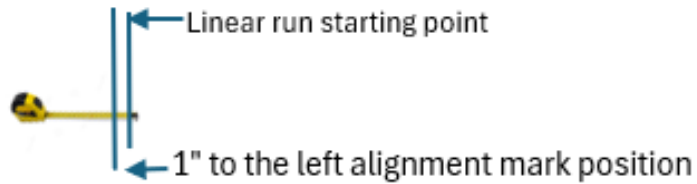
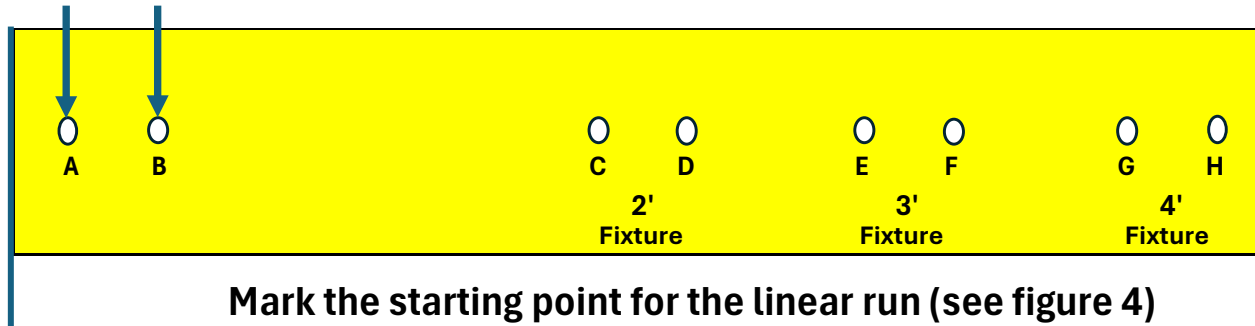

Figure 5
Figure 6
STEP 5: Measure 1 inch to the left of the starting point off the linear run and make a mark (see figure 5).
STEP 6: Place the template on the mounting surface at the 1-inch alignment mark positioned at the left side of the linear run starting point (see Figure 5). Mark the locations for holes A and B to install the first mounting bracket, as shown in Figure 6.